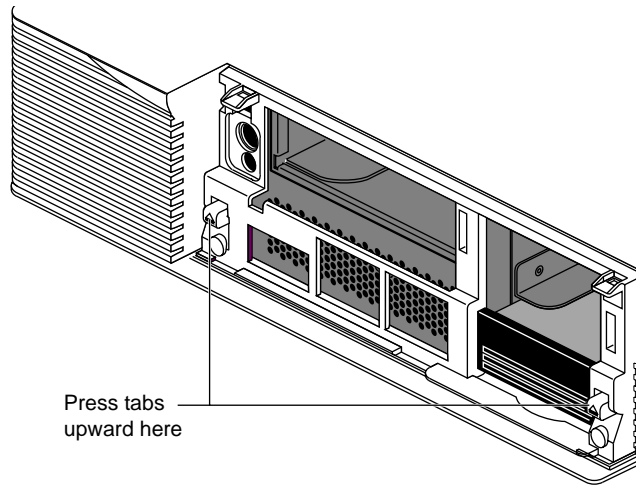

Figure 4-5 Releasing the Top Cover
- Press up on the tabs on each side of the drive openings as shown in Figure 4-5.